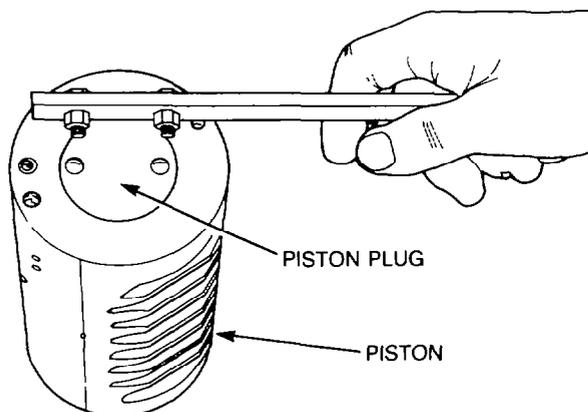

Figure 271 — Piston Plug — Removal
- l. Using special peg spanner A, remove the piston plug from the piston (see Fig. 271), then remove and discard the O-ring and expander.